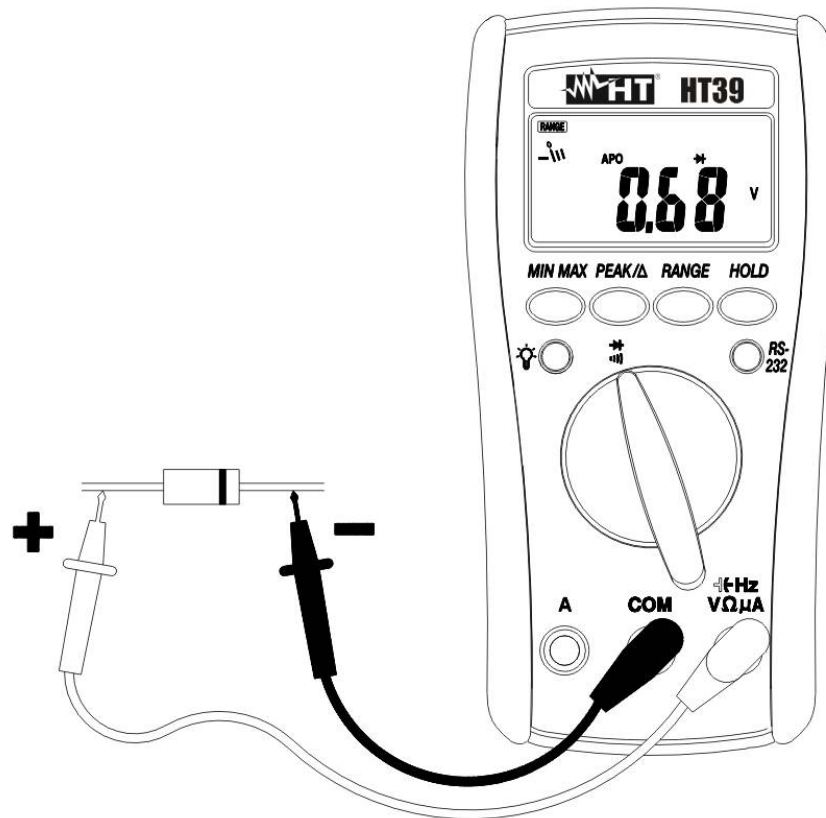

Fig. 9: Diode test and test continuity
2. Insert the test leads into the jacks, the red plug into $\rightarrow \text{HzV}\Omega\mu\text{A}$ jack and the black plug into **COM** jack (Fig. 9).